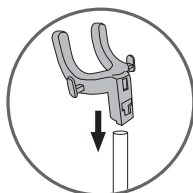

fig.3
3. Insert the steam head hook on the top of the telescopic pole - fig.3